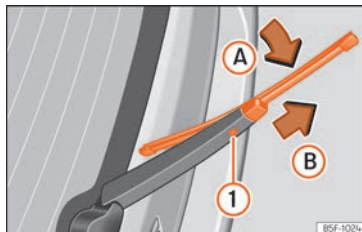

Fig. 41 Changing the rear wiper blade
- Turn the blade slightly » » » **Fig. 41** (arrow **A**).
- Hold down the release button ① while gently pulling the blade in the direction of arrow **B**.
- Insert a new blade of the **same length and type** in the rear wiper arm in the opposite direction to the arrow **B** and hook into place button ①.